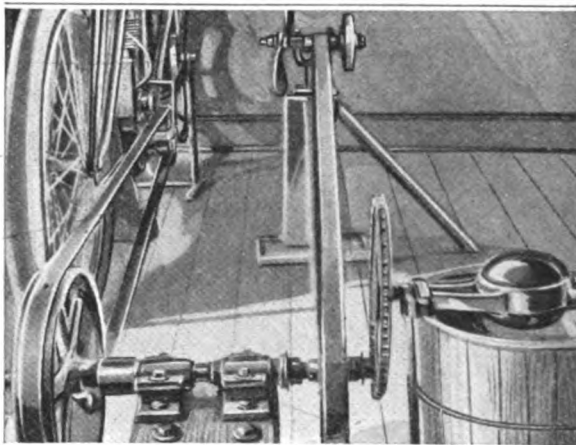
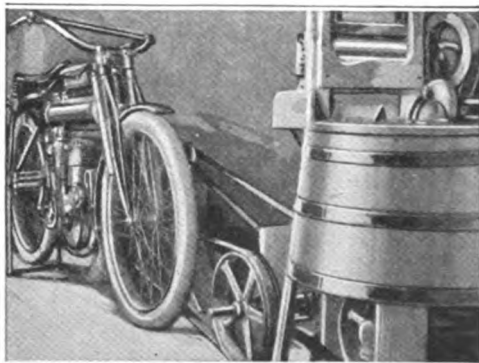
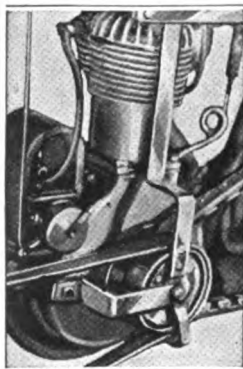
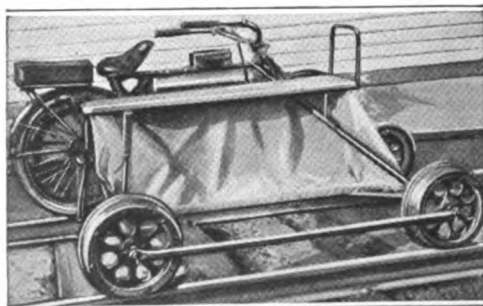

FIG. 1
FIG. 2
FIG. 3
FIG. 4
**A** MOTORCYCLE that is used only for transportation or pleasure jaunts is not giving the fullest service to its owner. By providing suitable rigging and devices, all easily made in the home workshop, I use my motorcycle the year round, for a large variety of home and shop duties. The arrangement shown in Fig. 1 permits the use of the engine for driving a cooling fan, an emery grinder, and an ice-cream freezer. Many other home and farm machines may be driven similarly. The work of wash day made lighter by the use of the motorcycle engine is shown in Fig. 2, and a detail of the driving pulley in Fig 3. The machine fitted to a truck for use on railroad tracks is shown in Fig. 4. The vehicle is not impaired for its ordinary use, and the devices used with it are quickly disconnected.